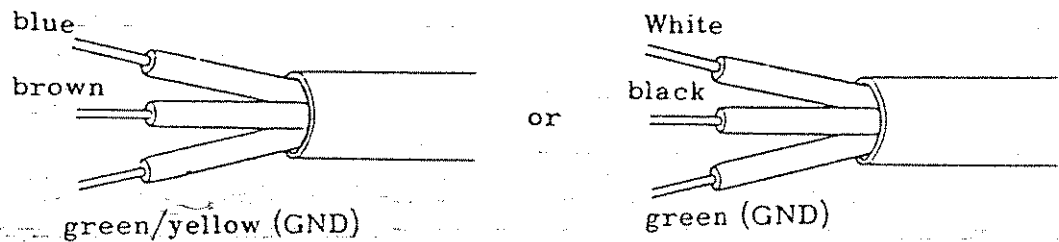

Fig. 1
- Power Cable: to 3-core cable (See Fig. 1 for the colors)